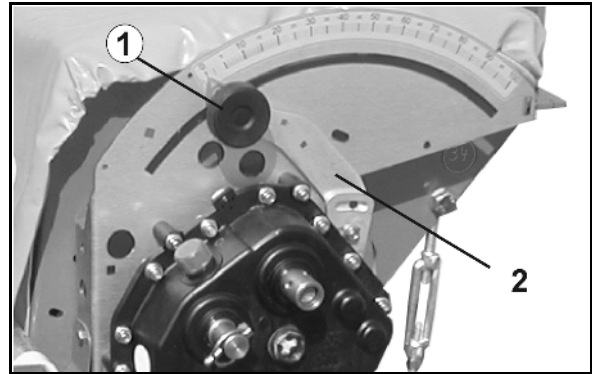

Fig. 34
1. Slacken the locking knob (Fig. 34/1) of the gearbox setting lever.
2. Move the pointer of the gearbox setting lever (Fig. 34/2) to the desired gearbox setting.
3. Tighten locking knob (Fig. 34/1).